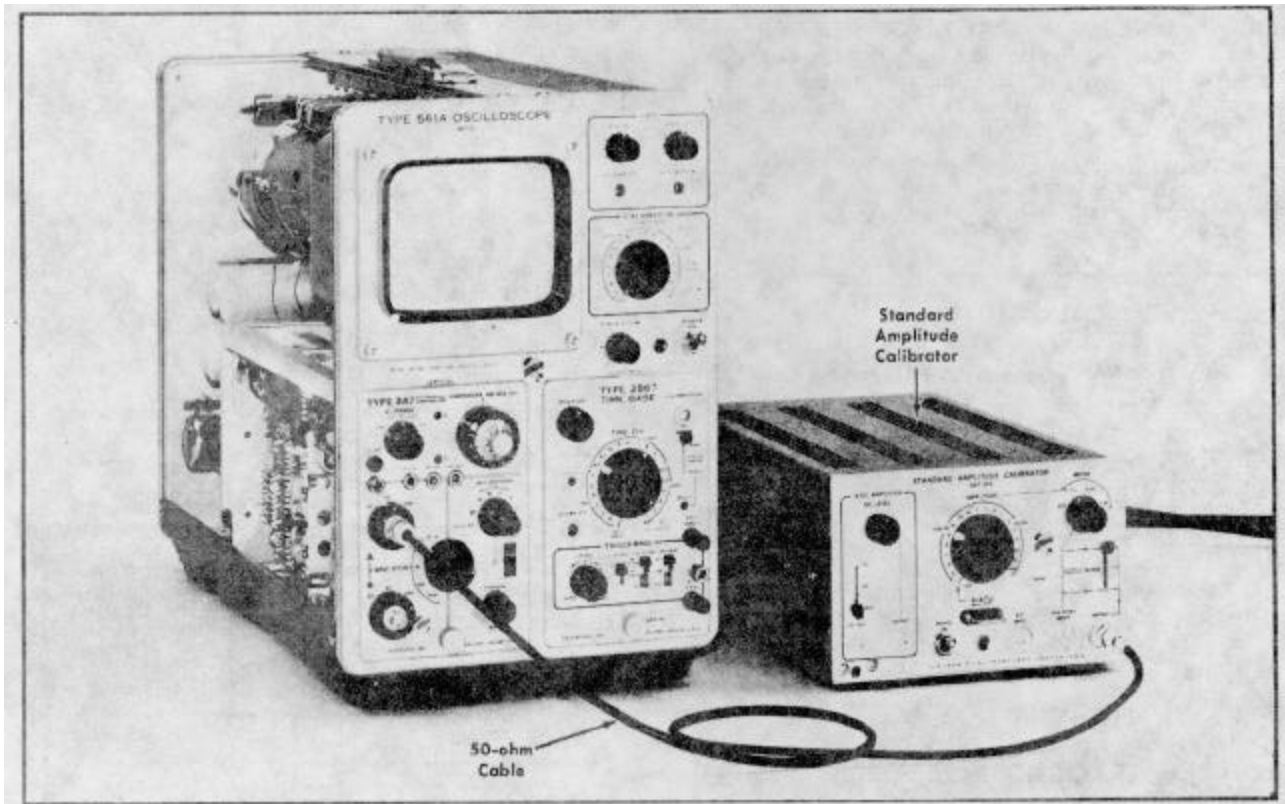

Fig. 5-14. Setup at completion of step 13c.
c. Apply a 5mV peak-to-peak 1-kHz calibrator signal through a coaxial cable to the A input connector. If possible, use an accurate calibration signal source. Fig. 5-14 shows the setup.
a. Using the same setup as shown in Fig. 5-14, check all the MILLIVOLTS/DIV switch positions for proper calibrated vertical-deflection factors. Use Table 5-3 as a guide. For all positions except the 1 mV/div position, the display amplitude tolerance should be within $\pm 3\%$ plus the tolerance of the amplitude calibrator output.